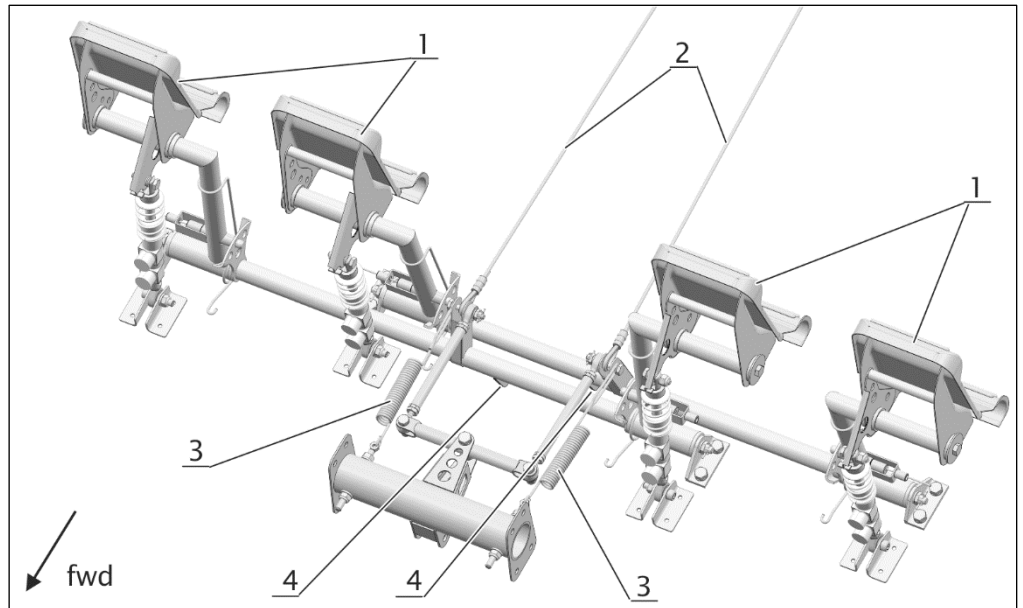
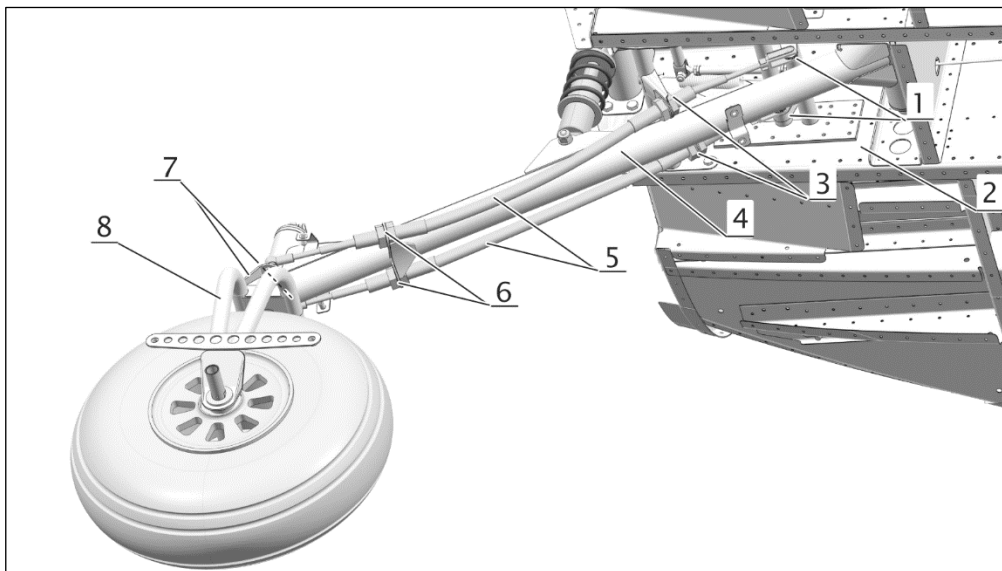

Figure 8 *Rudder Pedals*
Figure 9
The NLG / Rudder control has a closed loop system with centring springs (3, Figure 8) located in the nose gear channel (also see Item 2 in Figure 9).
The movements of the rudder pedals (1, Figure 8) are transferred to the nose wheel fork (8, Figure 9) by means of steering levers (1) welded to the rudder control system and Teleflex cables (5). The Teleflex rods are attached to the nose gear leg (4) by brackets (3 + 6). The rod attachment to the steering levers is made by fork ends, the one to the steering brackets (7) at the nose wheel fork (8) by ball ends.